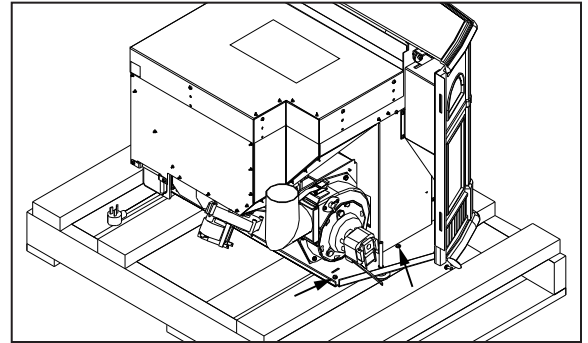

Figure 4: Removing Stove From the Pallet.
Use a flathead screwdriver or $\frac{5}{16}$ " socket to remove the four (4) screws that secure the Empress FPI to the pallet. Two (2) of the screws are shown in Figure 4 and the other two (2) are in the same location but on the opposite side; behind the circuit board and beside the power cord.